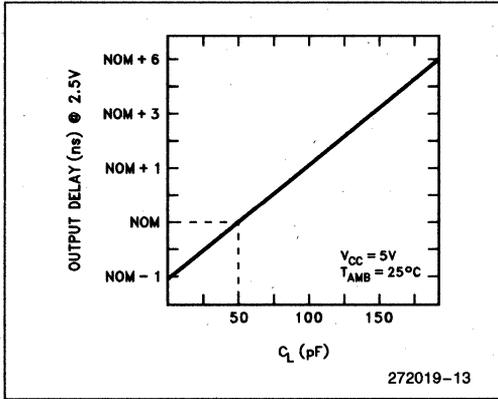

Figure 12. Typical Output Delay Variations Versus Load Capacitance
- Specified for a 50 pF load, see Figure 12 for capacitive derating information.